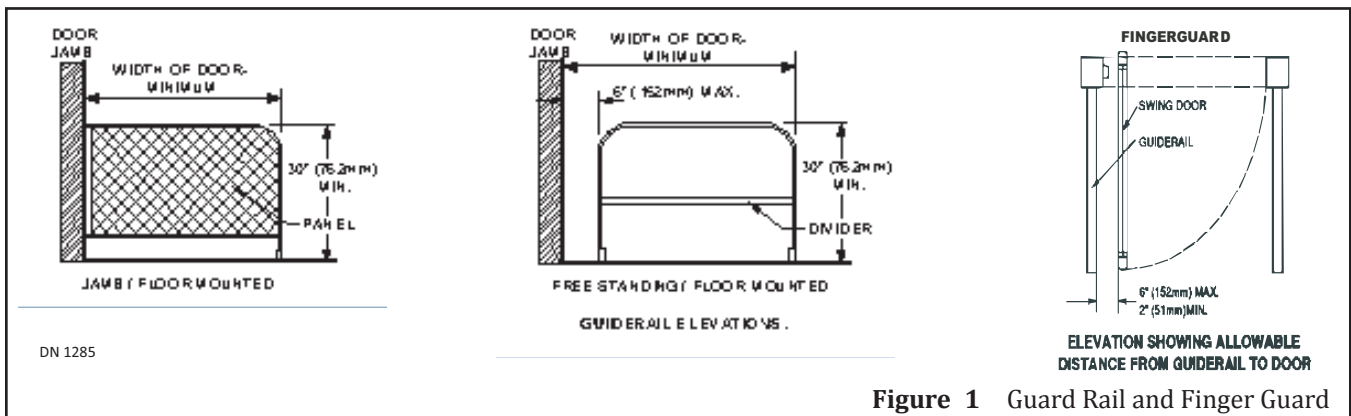

Figure 1 Guard Rail and Finger Guard
- ▶ Finger Guard: If installed, inspect the Finger Guard to see that it is secure and in good repair. Please see Figure 1.